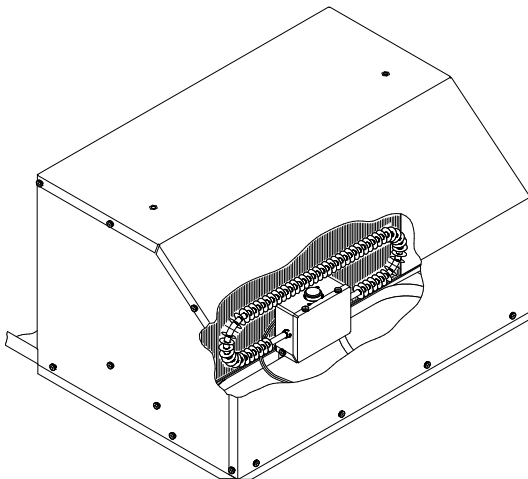
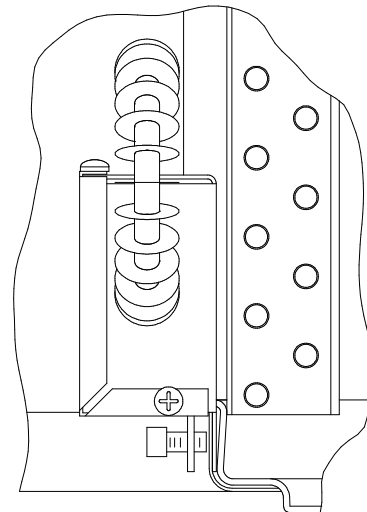
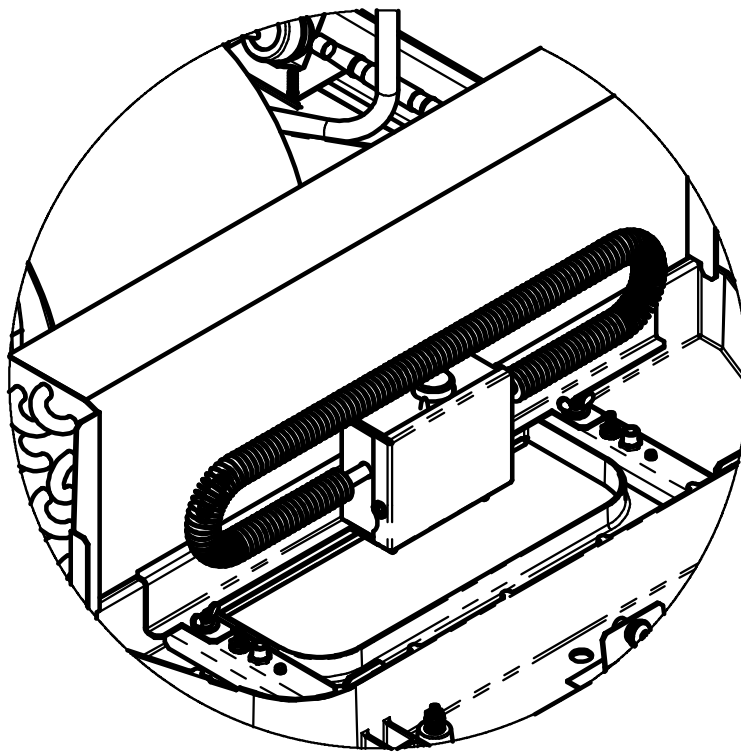

FIGURE 6
FIGURE 7
FIGURE 10
- A. If adding the electric heater to 48000 and 49000 series units, position the assembly in the upper unit return air opening as shown in Figure 6. The heater bracket must be installed over the metal basepan extrusion and positioned between the basepan and the plastic drain pan (See Figure 7). Tighten set screw to secure the assembly so as to prevent movement. 47000 series units will mount as shown in Figure 10 (see page 13) using wing nuts.